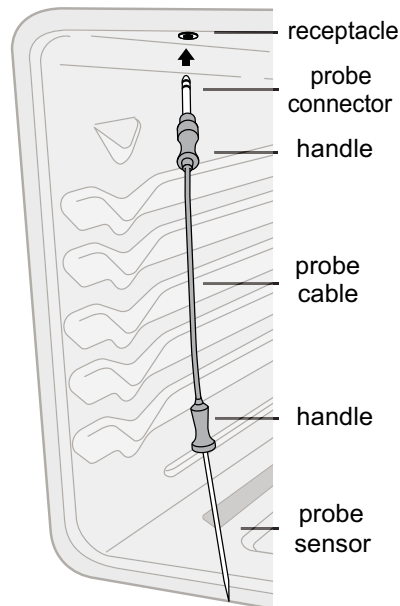

Fig. 2
- Be sure the probe is **fully** inserted into the probe receptacle. The probe will not work properly until correctly connected - Fig. 2.